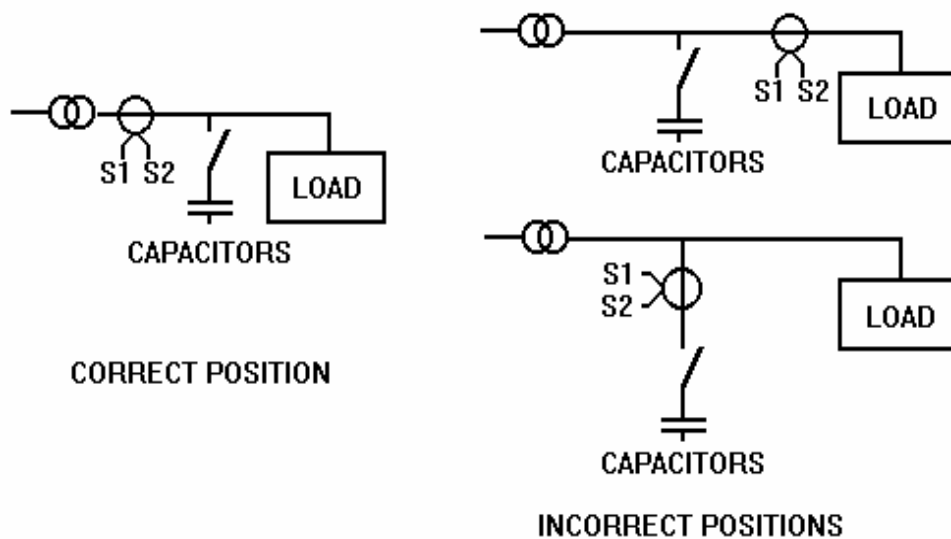

Figure 5.- Location of the current transformer (CT)
- Check the connections between the EM modules , the PF regulator (COMPUTER...f) and the current transformer (CT). For details concerning the regulator adjustment see the instructions manual of COMPUTER...f. See also the figure 5 showing the right location of CT in the installation.